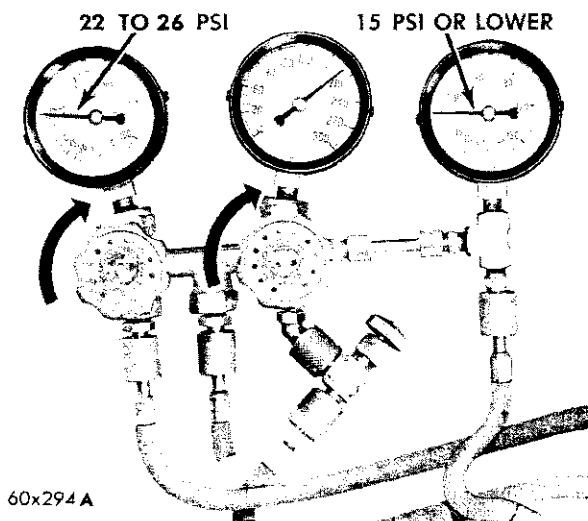

Fig. 20—EPR Valve Test Pressures
(1) Pressure registered at the evaporator suction gauge will become progressively lower.
(2) At the same time, the compressor inlet gauge will start to fluctuate. The fluctuation is caused by the alternate opening and closing of the "EPR" valve. It indicates that suction pressure is reduced to the point where it just balances the internal spring pressure on the diaphragm. The EPR valve is actually operating as a modulating valve.
(3) When fluctuation at the compressor inlet gauge stops and the pressure registered drops steadily, the "EPR" valve is maintaining minimum suction line pressure. Allow the pressure registered at the compressor inlet gauge to drop to 15 psi or lower, then read the evaporator suction gauge. (Refer to Figure 20.)